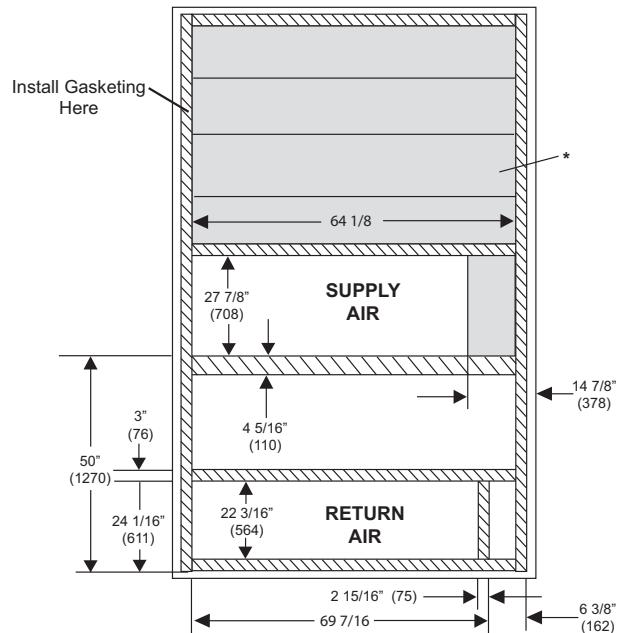

Fig. 3 - Roof Curb Dimensions
2. Cut hole in roof for duct openings. See Fig. 3 for dimensions. It is not necessary to cut out the entire area of the roof curb. If utility connections are to be made through the curb, cut out the access space near the location of the utility plate connector.
7. Install the long support on the curb per Fig. 3. Note the 4-5/16" wide support goes in the middle of the curb as shown in Fig. 3.
13. Install sealing gasket on the top of the curb and duct supports. When installed, the weight of the unit will compress the gasket to seal the joint between the unit and the roof curb. Gasket strips must fit tightly together to leave no gaps for leakage. (See Fig. 3.)